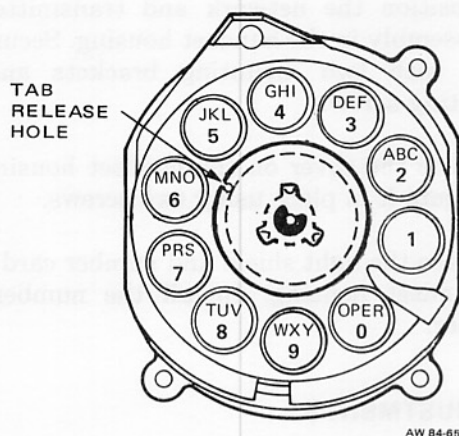

Figure 3: Location of Number Card Cover Release Hole
- (a) Insert the straightened end of a paper clip or similar tool into the small hole located in the finger plate. (See Figure 3.) Pry the number card cover from the finger plate. Remove the finger wheel card from the finger plate.